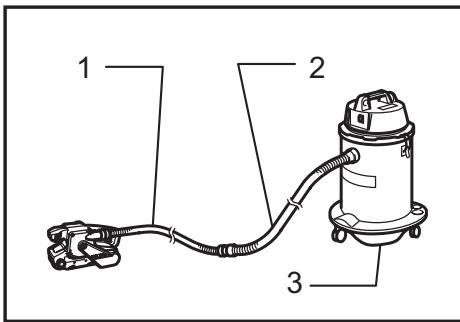

Fig.6
- Fig.6: 1. Optional hose 28 mm in inner diameter